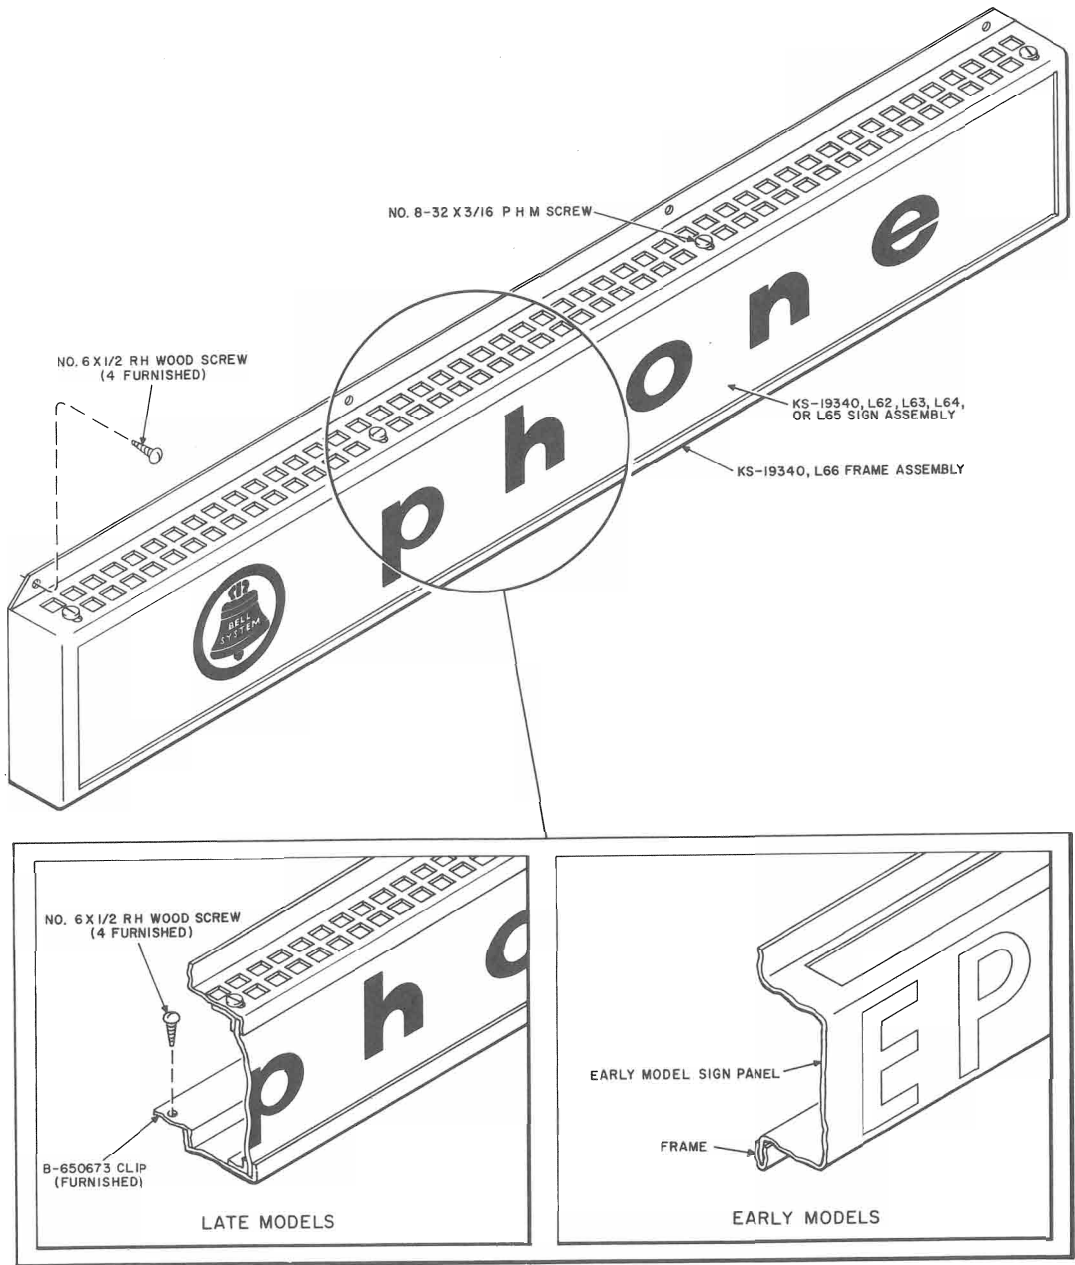

Fig. 8—KS-19340 Sign Assembly
4.22 To replace a sign panel or sign assembly, refer to Fig. 8 and perform the following: